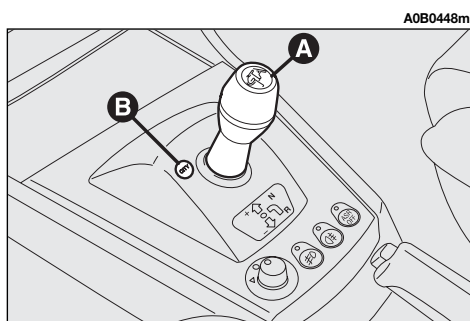
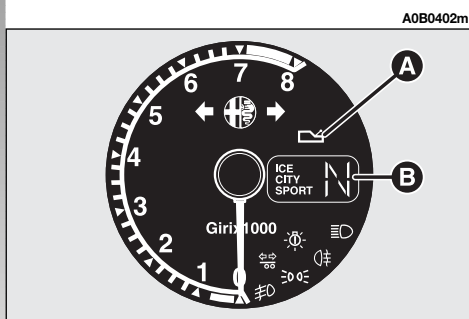

fig. 114
fig. 116
Gearshifting takes place through a floating control lever (**A-fig. 114**) with only one stable central position. Using this lever it is possible to request increase/decrease of the ratio of the gear engaged and/or engagement of reverse gear (**R**) or neutral (**N**).
- the second is automatic, called **CITY** (mode selectable with the specific button **B**-fig. 114, the **CITY** sign appears on the display **fig. 116** fitted on rev-counter), in which the system decides directly when to shift gear.
The gear engaged (**fig. 116**) is always signalled on the display regardless of the selected mode.
Failures of Selespeed gearbox are signalled to the driver through a warning light (**A**-fig. 116) accompanied by an acoustic signal.
Turning the ignition key to **MAR**, all the segments of the display (**B-fig. 116**), the gearbox failure warning light (**A-fig. 116**) and the word **CITY** light up. After about one second, the display indicates the gear engaged (**N, 1, 2, 3, 4, 5, 6, R**); from this moment, the Selespeed system accepts gearshift commands.